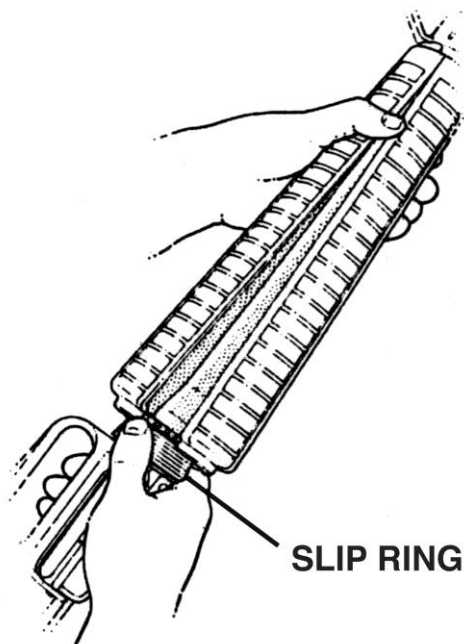

Figure 3
3. Remove *handguards* by pressing down on *slip ring* with rifle on *buttstock*. See Figure 3.